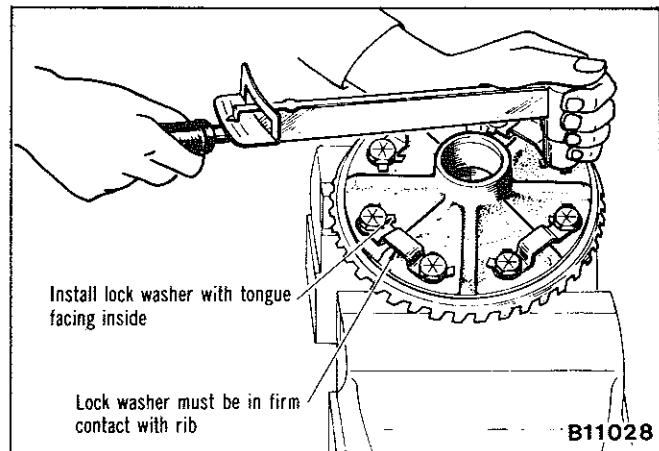

Fig. 18—Installing locking tabs
(5) With the flat on the drive pinion shaft aligned with the pinion shaft dowel pin hole, drive the dowel pin into position.
(6) Stake the dowel pin securely, to prevent its dislocation.
(7) Thoroughly clean the drive gear and gear mounting surface. Position the drive gear on the differential case, lubricate the retaining bolt/thread and install the bolts and locking tabs.
(8) Tighten the bolts to the specified torque in two stages and in a criss-cross fashion. After tightening, securely lock each bolt with the locking tab.
**NOTE:** Do not reuse old locking tabs, replace them with new ones and ensure they are securely bent to the shape of the differential case. When installing the locking tabs ensure they are fitted with the tongue facing inwards and in firm contact with the case rib, refer Fig. 18.